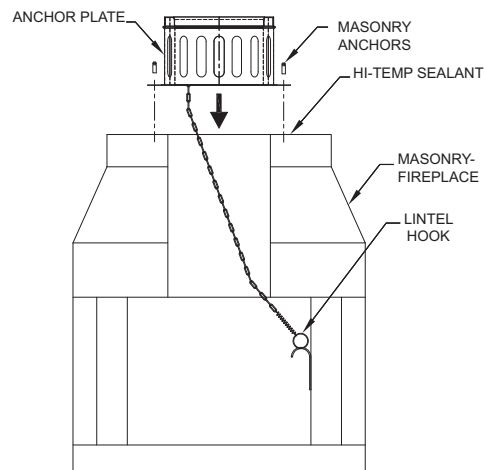

FIG. 1
It is important that the surface of the masonry chimney has a level surface on which to attach the Anchor Plate. If the top of the masonry does not have a level surface, then it will need to be modified accordingly. Center the Anchor Plate over the masonry flue opening. If a Damper is used, make sure nothing interferes with the damper plate movement. Seal the Anchor Plate in place with a high temperature sealant. Secure the Anchor Plate with four (4) masonry anchors. See **FIG. 1**. If the Anchor Plate with Damper is installed the damper should swing freely. When the chain is pulled down, the damper should close (horizontal position). When the chain is released (no weight on the chain), the damper should swing open (vertical position). To install the lintel hook, place the damper plate in the closed (horizontal) position. Determine and mark the position of the lintel hook. The lintel hook should be mounted in a position so as to provide a small amount of tension in the spring attached to the chain. See **FIG. 1**. The tension is needed to prevent the damper plate from rattling when closed. Mount the lintel hook to masonry with the screws provided. Do not obstruct oval openings in the anchor plate.